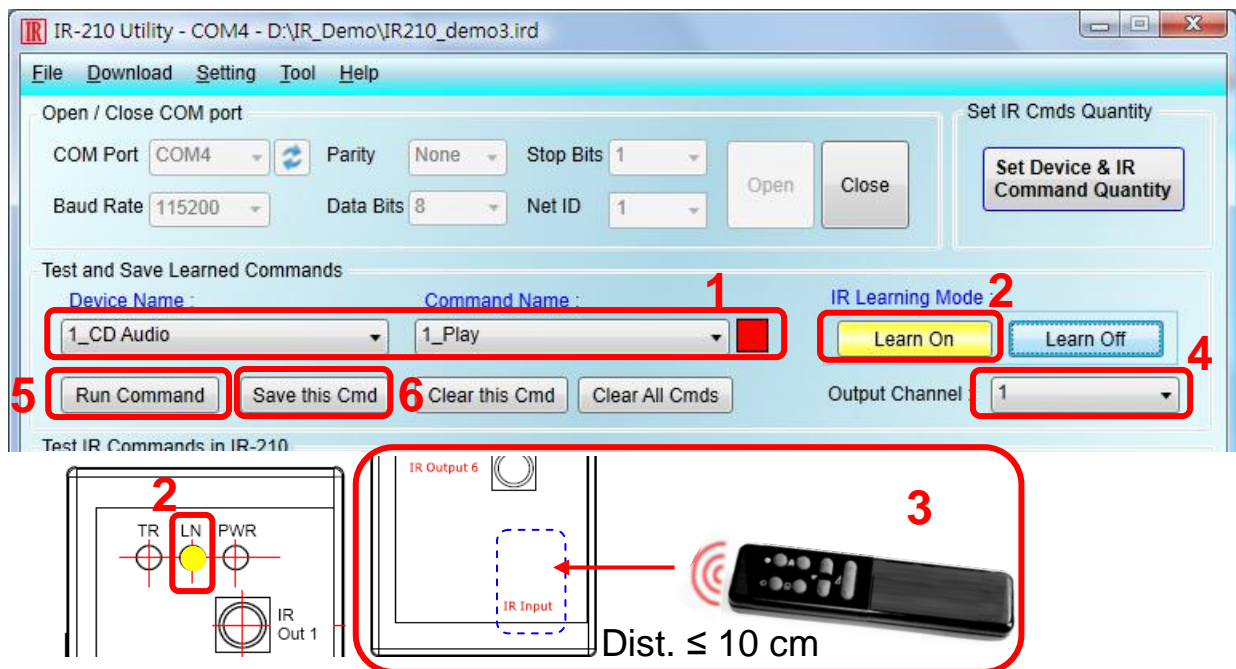

Figure 4-6 The steps to learn IR commands
Follow the steps below and the illustration in fig. 4-6 to learn and test IR commands:
- (1) Determine the IR command for learning by selecting the items in the “Device Name” and “Command Name” comboboxes.
- (2) Click the “Learn On” button to enable the IR learning mode on IR-210. At the same time, the LN LED is turned on to show the state.
- (3) Aim the IR emitter head of the device’s remote control at the IR input of IR-210. The distance less than 10 cm between the remote control and the IR-210 would be best. Then, press the button of the remote control which is to be learned. If the learning for the IR command is finished, the LN LED will be turned off and the IR learning data will be sent back to the Utility.
- (4) Select the IR output channel. For example in the fig. 4-6, the IR output channel is 1.
- (5) Aim the head of the IR emitter cable plugged in the IR output 1 at the corresponding IR-controlled appliance. Click “Run Command” button to emit the IR command from the IR-210. You can check if the learned IR command is OK by investigate the action of the appliance. If not, please repeat step 2 and step 3 again.
- (6) Click “Save this Cmd” button to save this IR learning command to the current item of the “Command Name” combobox, e.g. the item is “Play” in fig. 4-6.